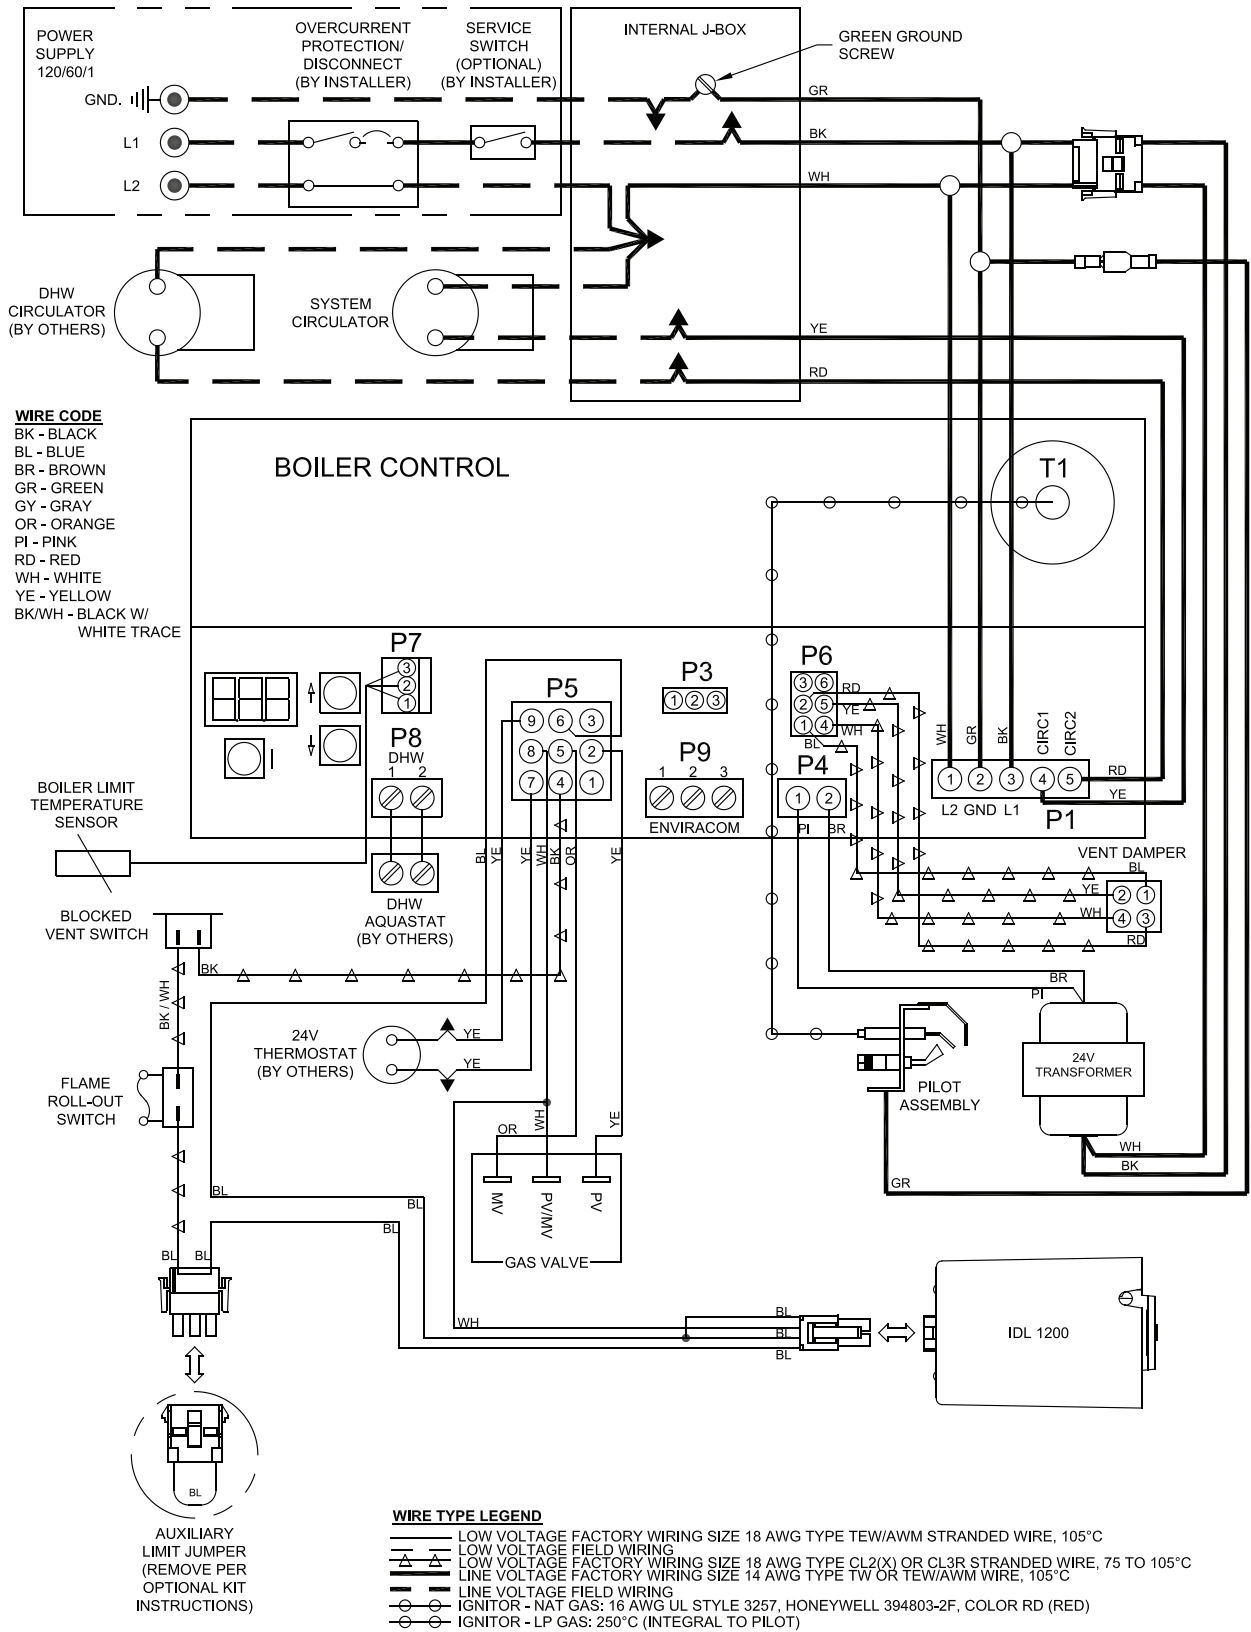

Figure 8-1: Wiring Connection Diagram
- C. Wire boiler. Boiler is rated for 120 VAC, 60 hertz, less than 12 Amperes. A separate electrical circuit must be run from main electrical service with an over-current device/disconnect in circuit. A service switch is recommended and may be required by some local jurisdictions. Connect to black and white wires and green ground screw. See Figures 8-1 and 8-2.